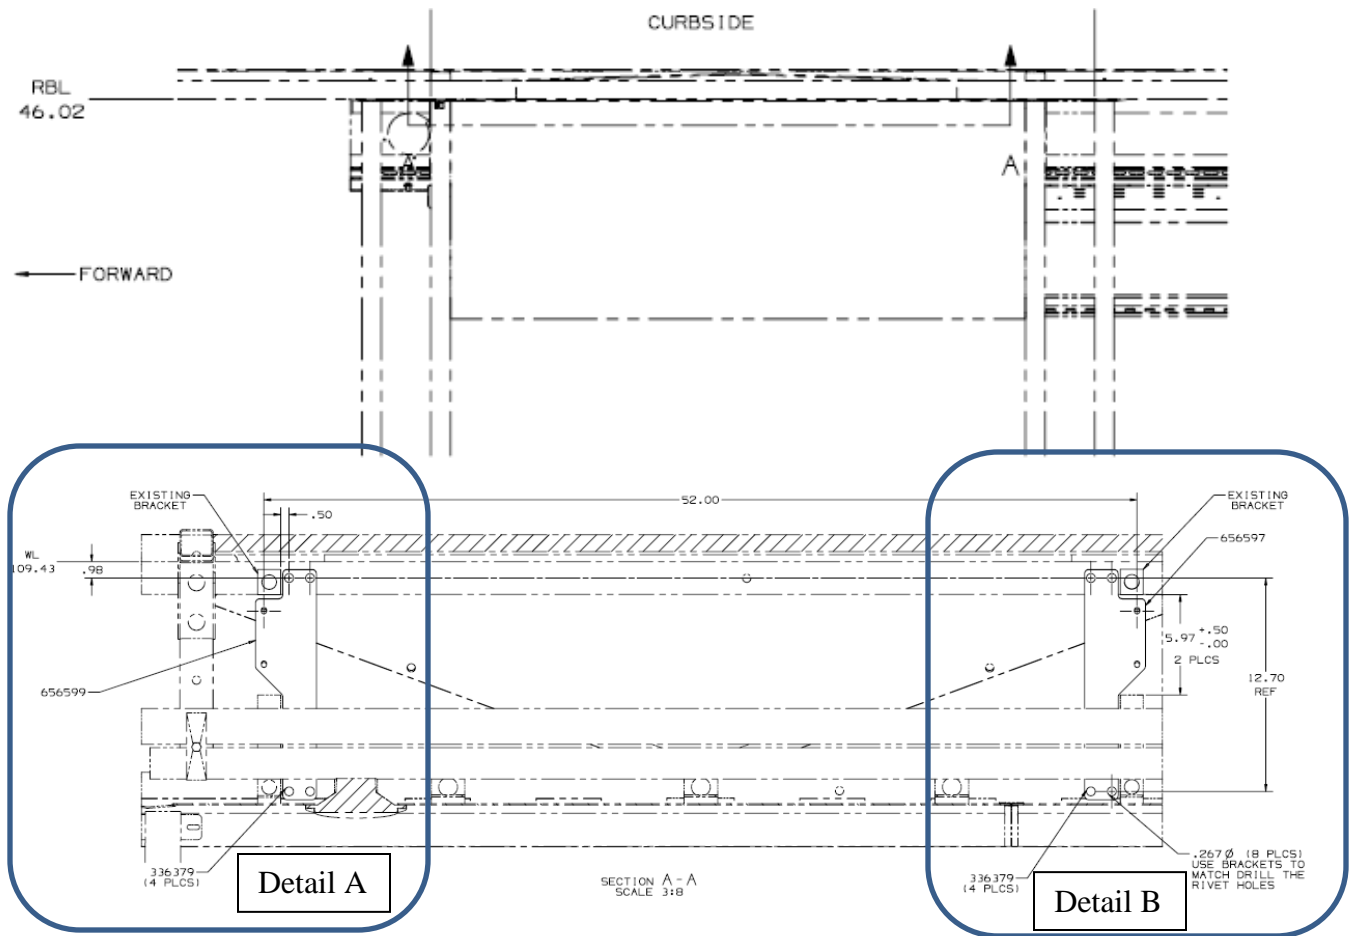

FIGURE 3: SHOWN VIEW TO CUT OFF SECTION OF THE ORIGINAL BRACKET TO INSTALL NEW BRACKET. DETAIL A & B WILL PROVIDE MORE DETAILS.
YES/NO & cracked/broken (circle). Refer to Figure 3. If no cracks found, proceed to step 20.
10. Start with the forward most bracket at the air accessory tank. For steps 12 - 18, refer to **Figure 3 & 4**.